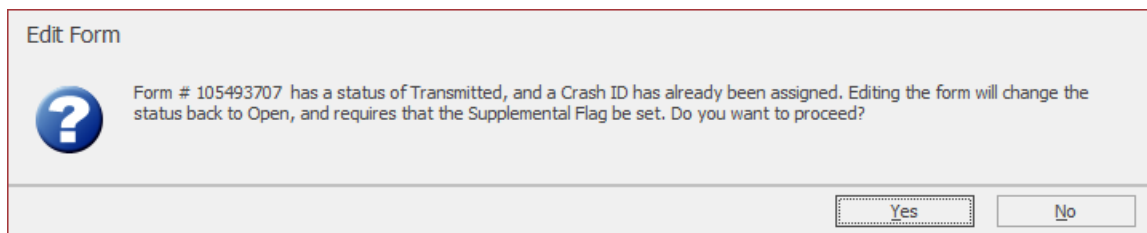

Figure 61. Do You Want to Proceed Message
- The **Do you want to proceed?** message displays (as shown in Figure 61.) to let you know that the status will change from "Transmitted" to "Open" and the supplemental flag on the form will be set. Click **Yes**. The form converts to edit mode and the databar displays.